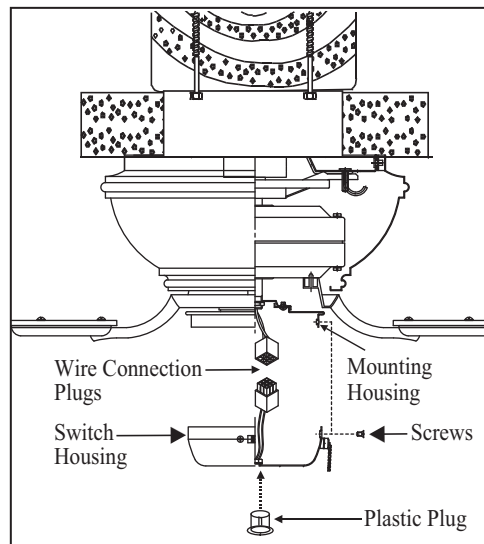

Figure 15
2. Attach the plastic plug to the switch housing. (Fig. 15)
3. Holding the switch housing under your fan, snap together the wire connection plugs. (Fig. 15)
4. Install the switch housing to the mounting plate with screws provided. (Fig. 15)